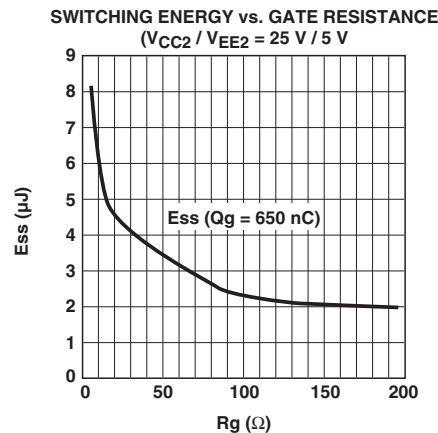

Figure 77. Switching energy plot for calculating average  $P_{switch}$  (for HCPL-316J output driving an IGBT rated at 600 V/100 A).
2. Calculate total power dissipation in the part referring to Figure 77. (Average switching energy supplied to HCPL-316J per cycle vs. RG plot);
For  $R_G = 10.5$ , the value read from Figure 77 is  $E_{SWITCH} = 6.05 \mu\text{J}$ . Assume a worst-case average  $I_{CC1} = 16.5 \text{ mA}$  (which is given by the average of  $I_{CC1H}$  and  $I_{CC1L}$ ). Similarly the average  $I_{CC2} = 5.5 \text{ mA}$ .
$P_i = 90.8 \text{ mW}$ ,  $P_o = 217.3 \text{ mW}$ ,  $T_A = 100^\circ\text{C}$ , and assuming the thermal model shown in Figure 77 below.